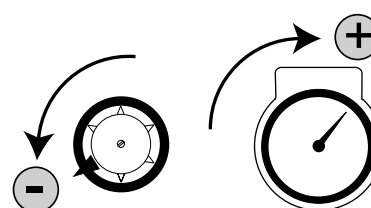

Fig 6-2
- Modulate the return to the tank by using the manual "Volume-regulating" valve. (fig 6-2)